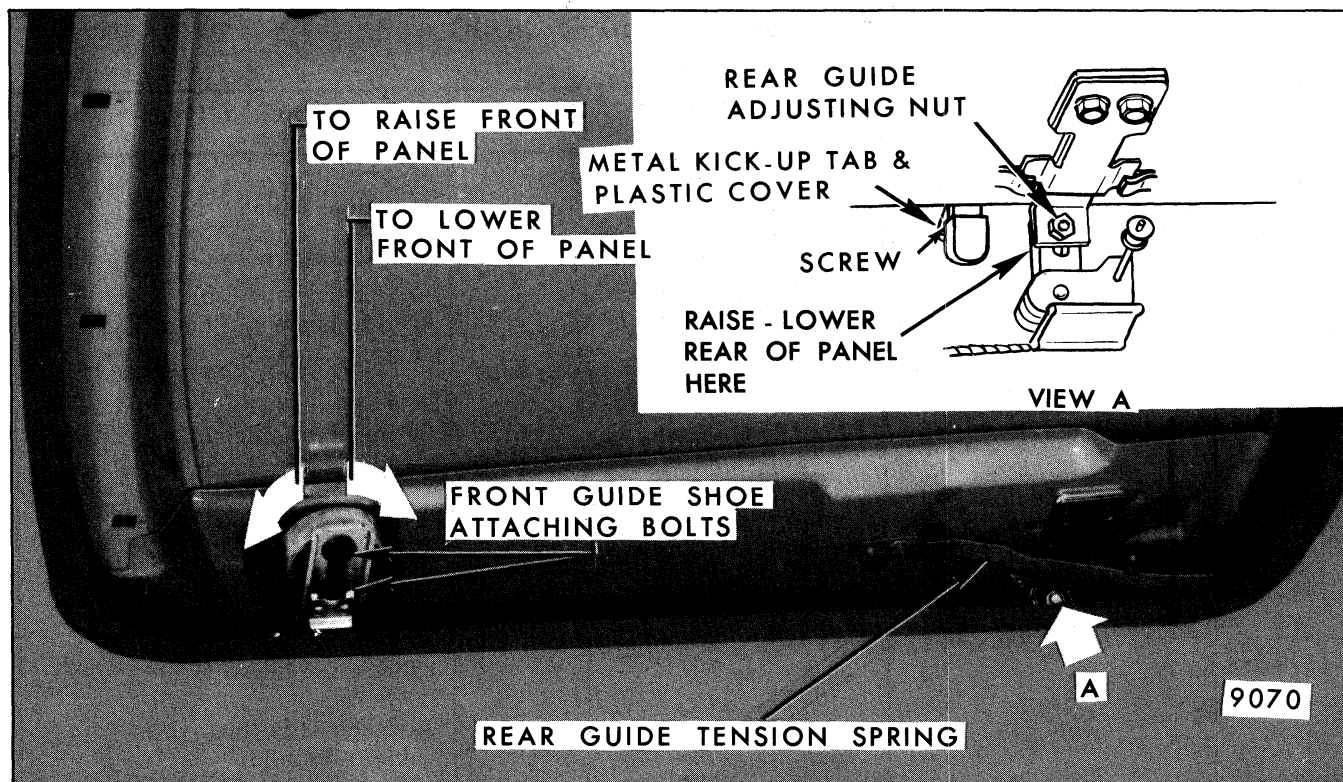

Fig. 8-75-Sun Roof Panel Vertical Adjustment Provisions
(Fig. 8- 76) and loosen two bolts on the front guide shoes (Fig. 8-75).
2. Turn front guide adjusting nut clockwise to lower roof panel and counterclockwise to lift panel (Fig. 8-75).
2. Raise or lower panel to desired height using serrations provided on lifter link (View "A", Fig. 8-75).
3. If panel fails to rise, check for low battery or check for bent lifter tabs or missing tab covers (Fig. 8-75).
7. Install rear guide attaching plate retainer over rear attaching plate and install attaching bolts (14 to 22 inch-pounds of torque). Rotate rear slide tension spring outboard and place on underside of roller (Fig. 8-75).